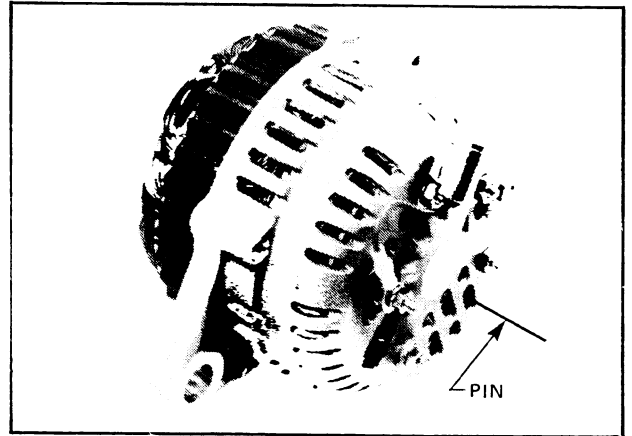

Figure 6D-23
- Use the pin to hold the brushes back into the brush holder. Refer Fig. 6D-24.